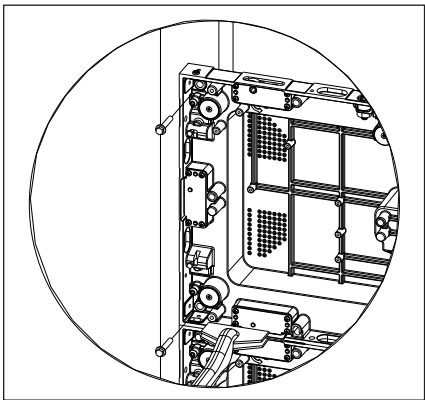

Figure 12: Secure Panel to Tube
7. Secure the panel to the tubes through all four corner mounting locations. Refer to **Figure 12**.